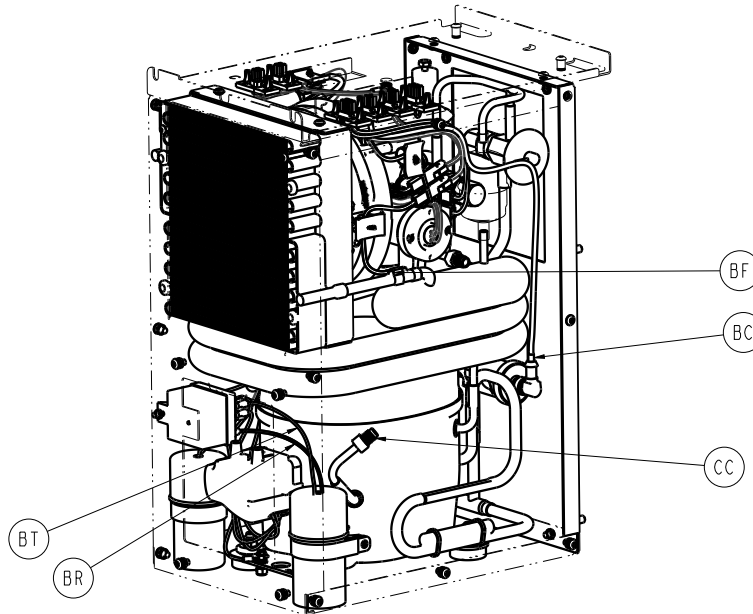

Figure 26 – Refrigeration temperature probe
4. Using a utility knife, remove the insulation and tape around the refrigeration temperature probe (BF) (Figure 26).